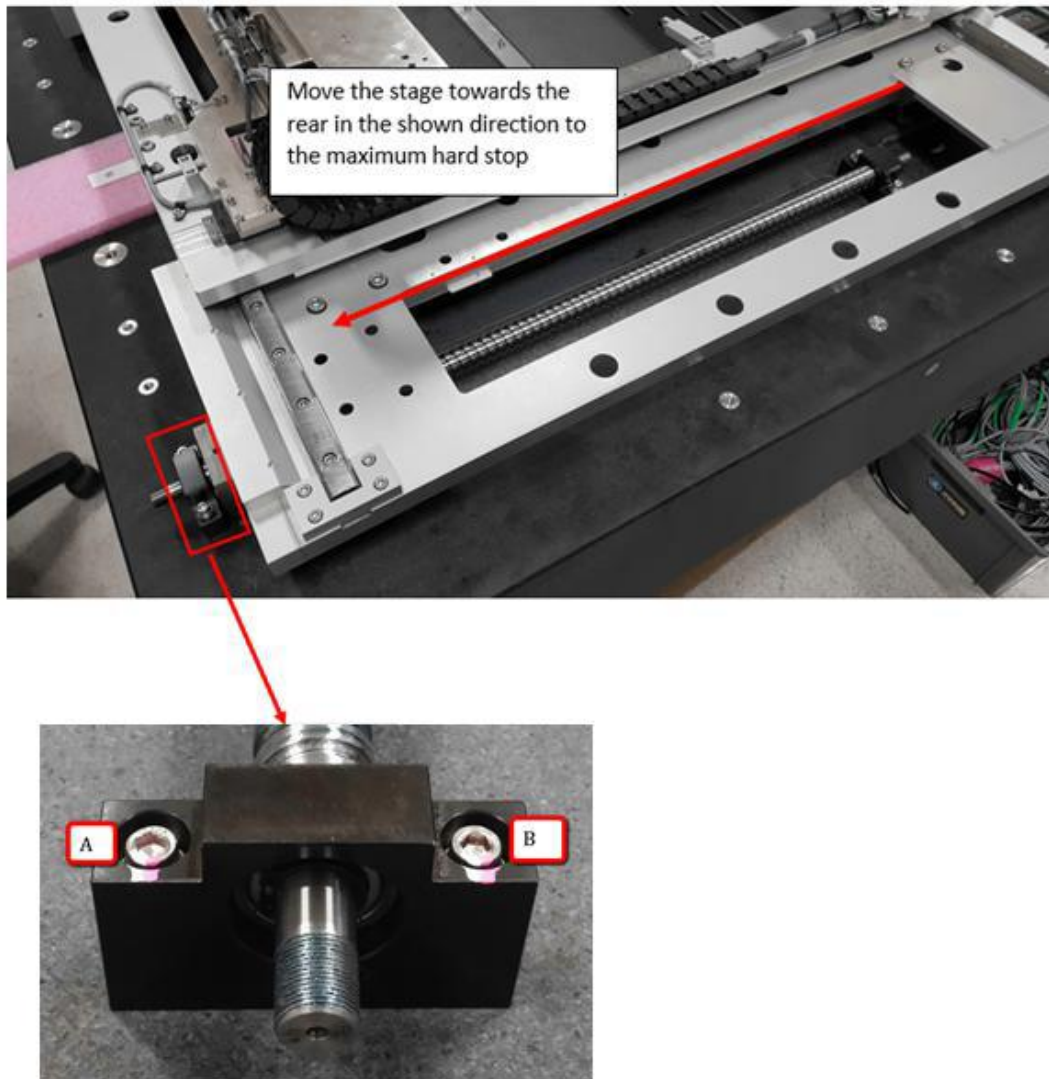

Figure 50 End bearing support (Rear)
54. Move the Y-Axis stage towards maximum hard stop as shown in the Figure 50 and tighten screw “A” & “B”.